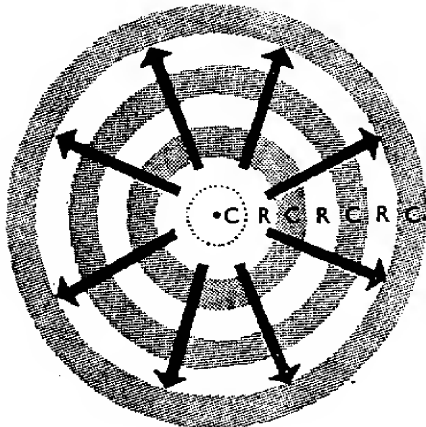

Fig. 174
source rather like expanding shells (Fig. 174). In the air the shells can be thought of as spheres around the source. The molecules vibrate to and fro in the direction in which the wave is moving. *What are such waves called?* (13) As in the case of water waves, the speed at which the sound waves travel outwards is not the same as the speed at which the molecules are